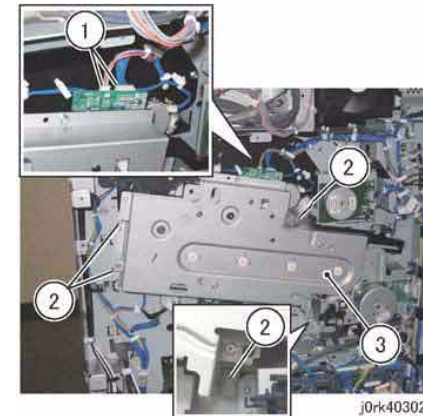

Figure 2 Drum Drive Assy
4. Remove the Drum Drive Assembly. (Figure 2)